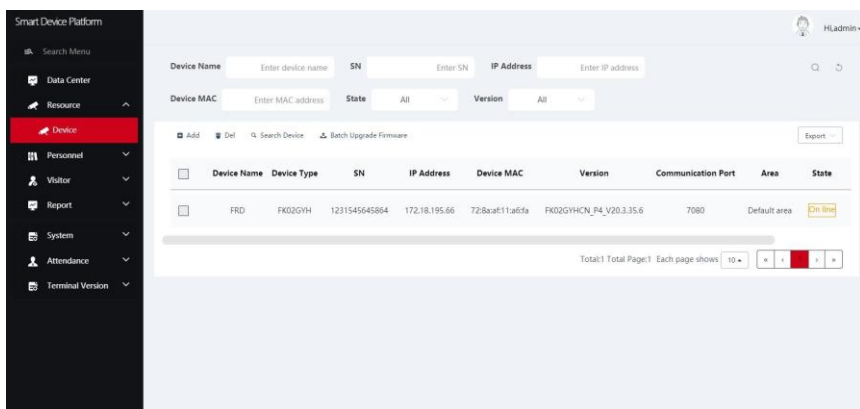

Figure 5-27
Step 5: Click "Resource→Device" to enter the device management interface, as shown in Figure 5-27 below.